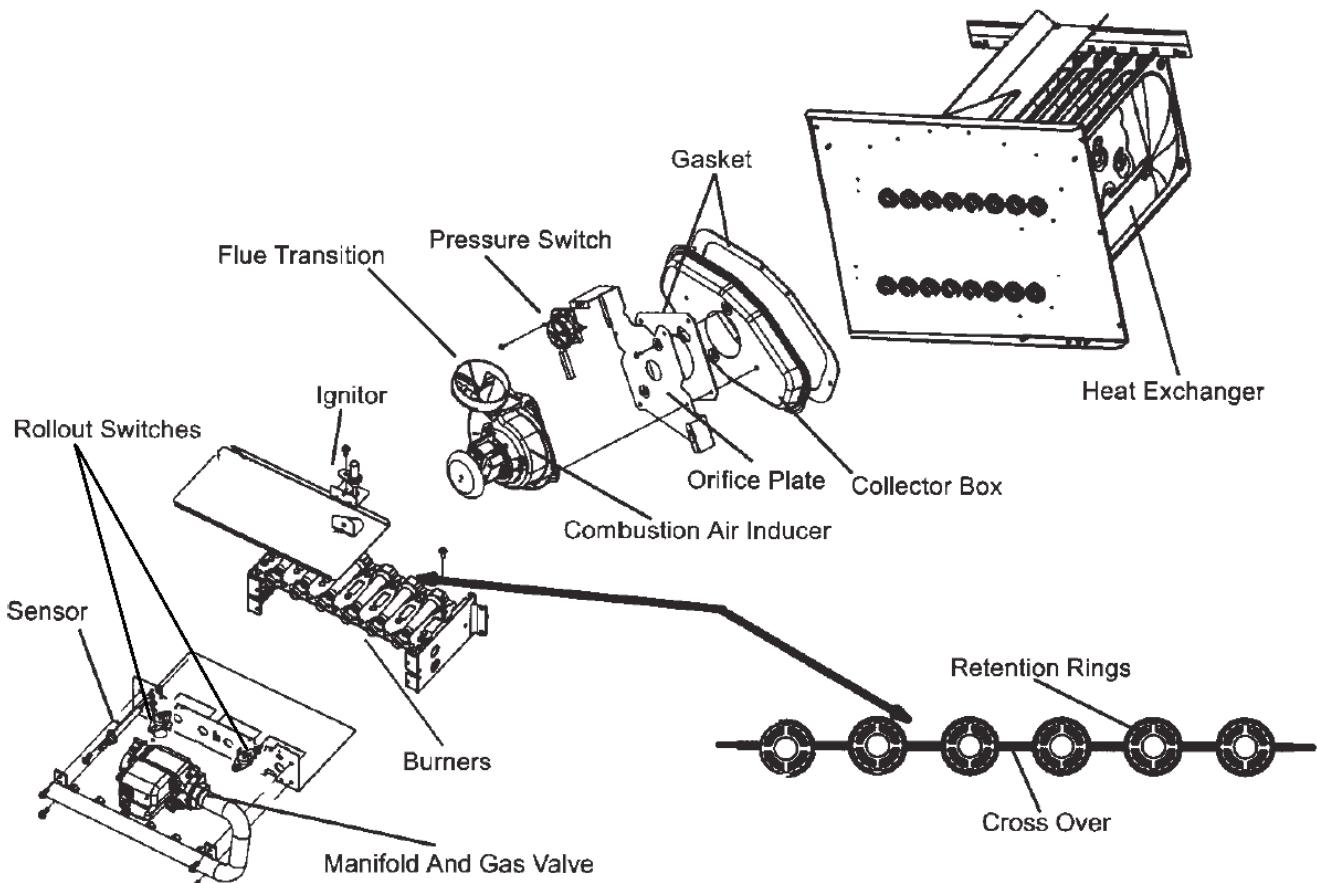

Figure 29
12. To clean burners, run a vacuum cleaner with a soft brush attachment over the face of burners. Visually inspect inside the burners and crossovers for any blockage caused by foreign matter. Remove any blockage. Figure 29 shows burner detail.